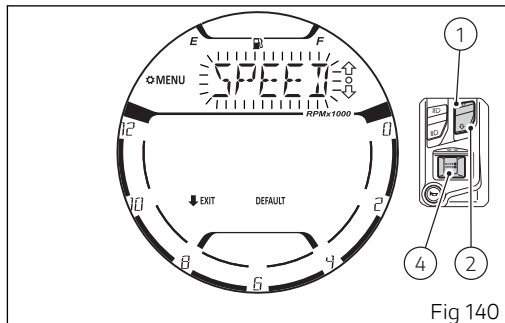

Fig 140
Use buttons (1) and (2) to select the flashing item "SPEED" (Fig 140) and press button (4).
Press button (4) to confirm. Successively, the display will show the flashing "SPEED" indication again (Fig 140).
Successively, the display will show the flashing "SPEED" indication again (Fig 140).